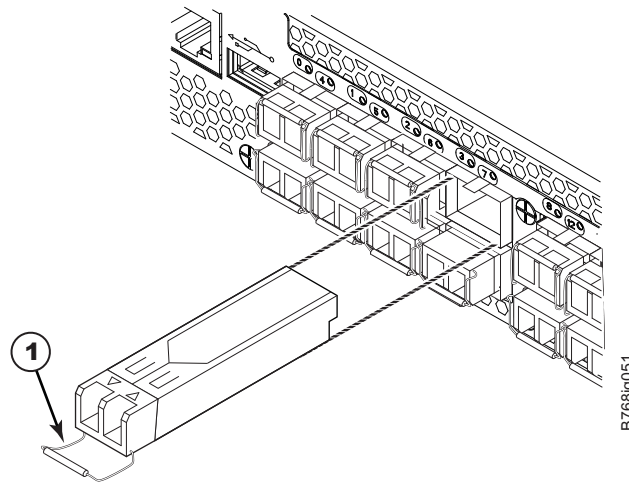

Figure 43. Removing and replacing an SFP+ optical transceiver
2. Using the hooked end of the tool, pull the bail (wire handle) **1** away from its pivot point and out, sliding the transceiver out of the port (Figure 43).